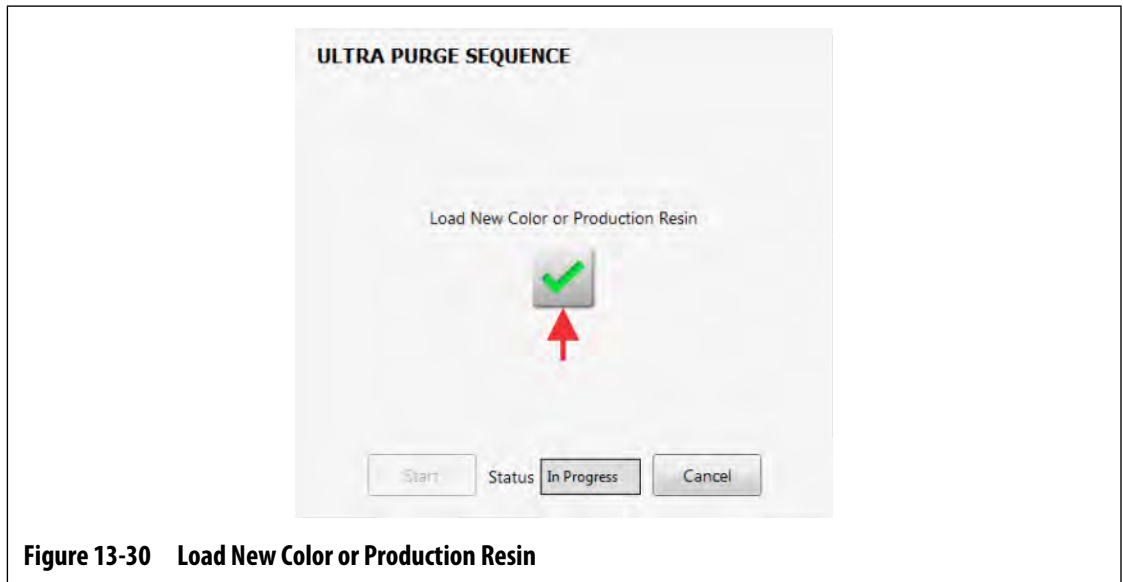

Figure 13-30 Load New Color or Production Resin
- Load the new color or production resin into the IMM (Figure 13-30).